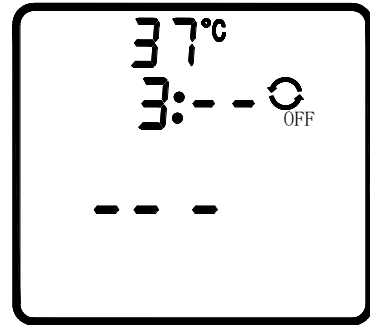

Fig 8: The circulation filtration will last for 3 hrs
3) Press the "  " key to set up the last time of circulation filtration (Fig. 8), the last time is not flashing. Each press of "  " key to adds 1 hour, the range is 1-11 hours.